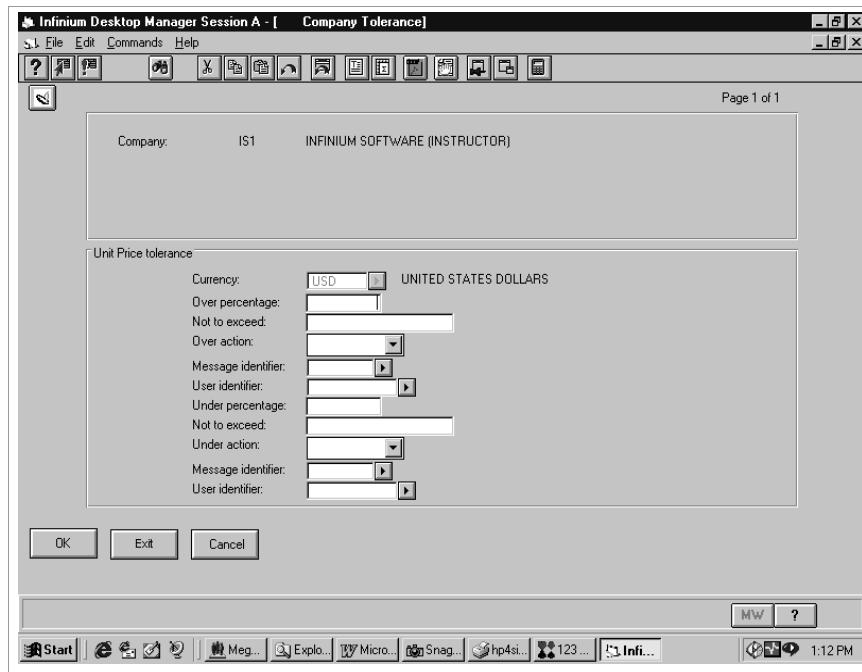

Figure 4-13: Unit Price Tolerance screen
- 2 Press Enter. The system displays the same screen for each tolerance as shown in Figure 4-13.